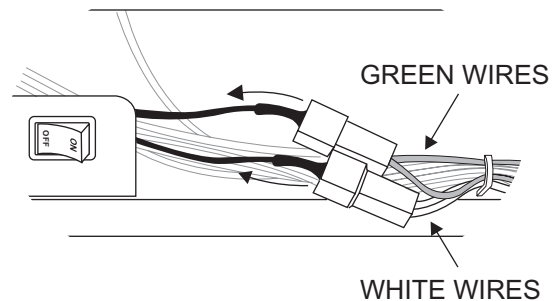

Figure 19
"IP" Valve - Locate the two 5-1/2-inch long black wires connected to the ON/OFF switch. Disconnect these two black wires at the green and white wire connections. Attach the flag terminals (the low voltage wire assembly found in the Instruction Packet) to the green and white wire connections. **See Figures 19 and 20.**
- b. For IP valve connections, locate the green and white wires from the control module, then connect the switch wire flag terminals to the green and white wire terminals. **See Figures 19 and 20.**